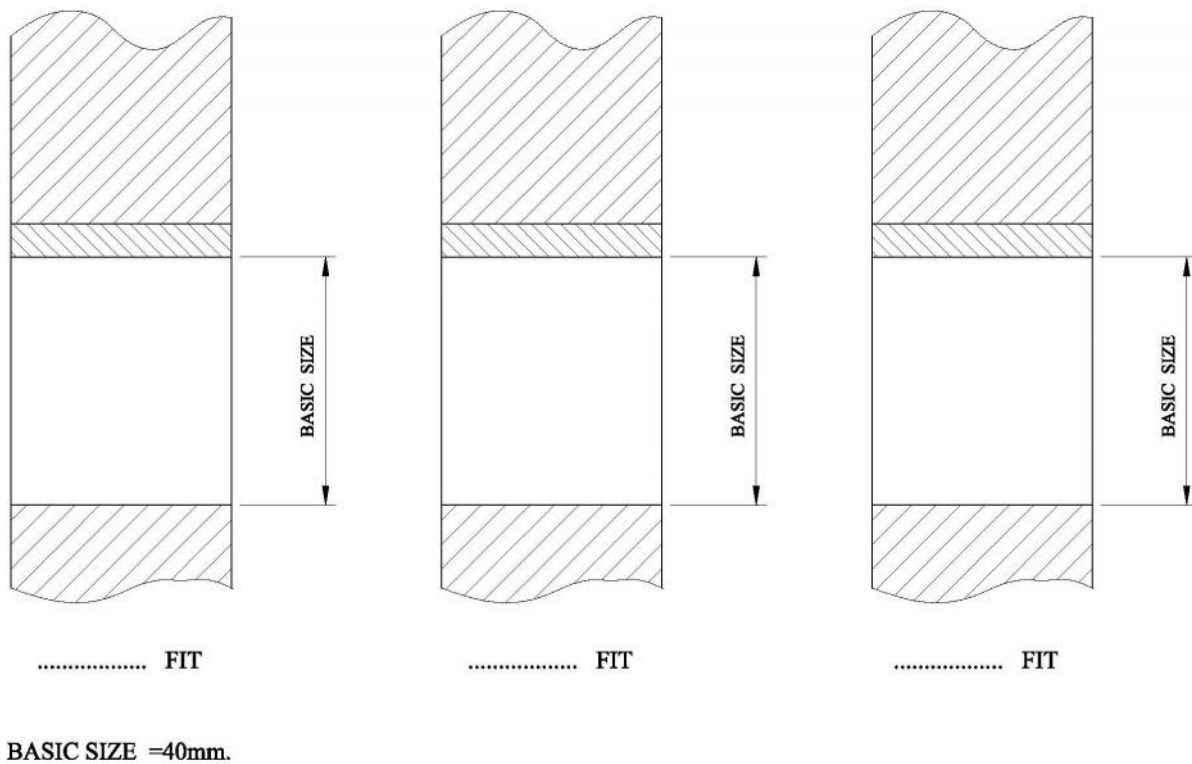

Figure 3a
- ii) Name the three classes of fit in common use using Figure 3a below. Complete the illustration showing the comparison between the three classes of fit, using the hole basis system.